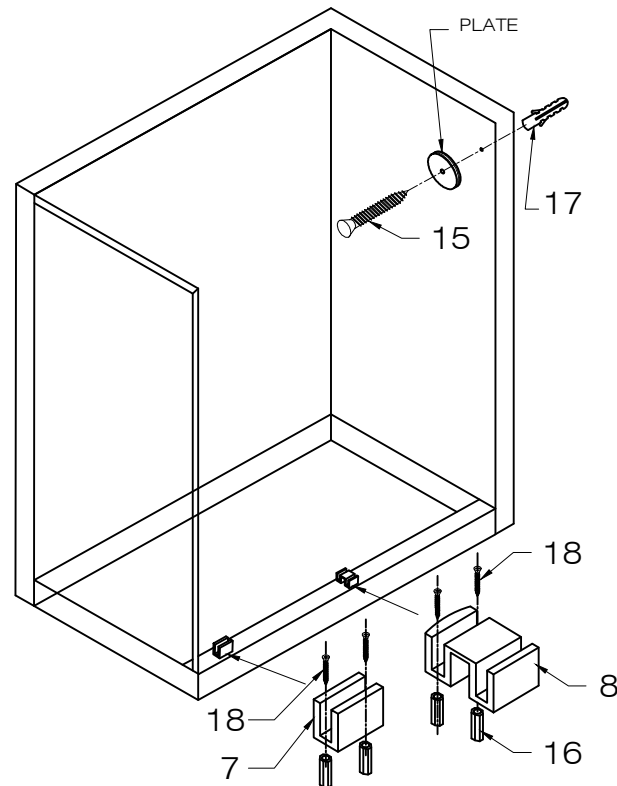

FIG. 6
4. Place plates to the wall opposite to the plastic anchors. Screw plates in with 2" screws (#15). [SEE FIG.6].